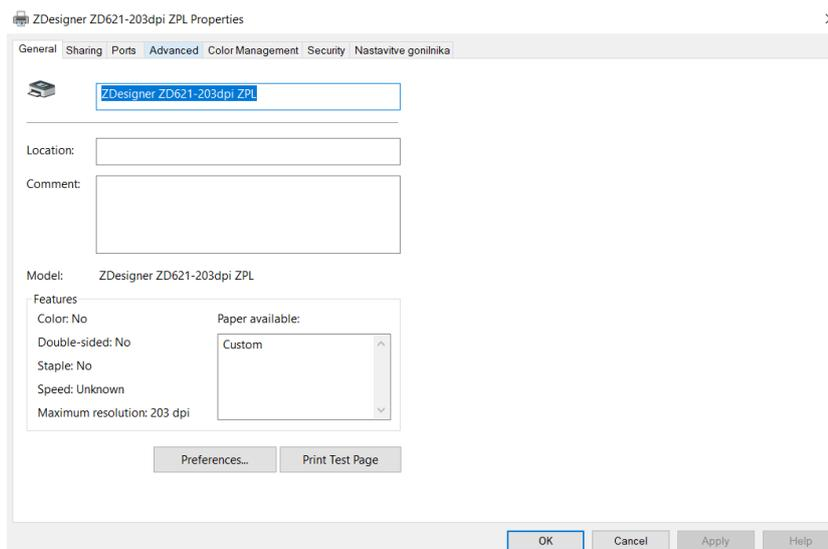

Figure 3: Printer properties
- Figure 3: Printer properties2
Once you click **Printer properties**, a new window will be displayed, where you select the **Advanced** tab (Figure 3).